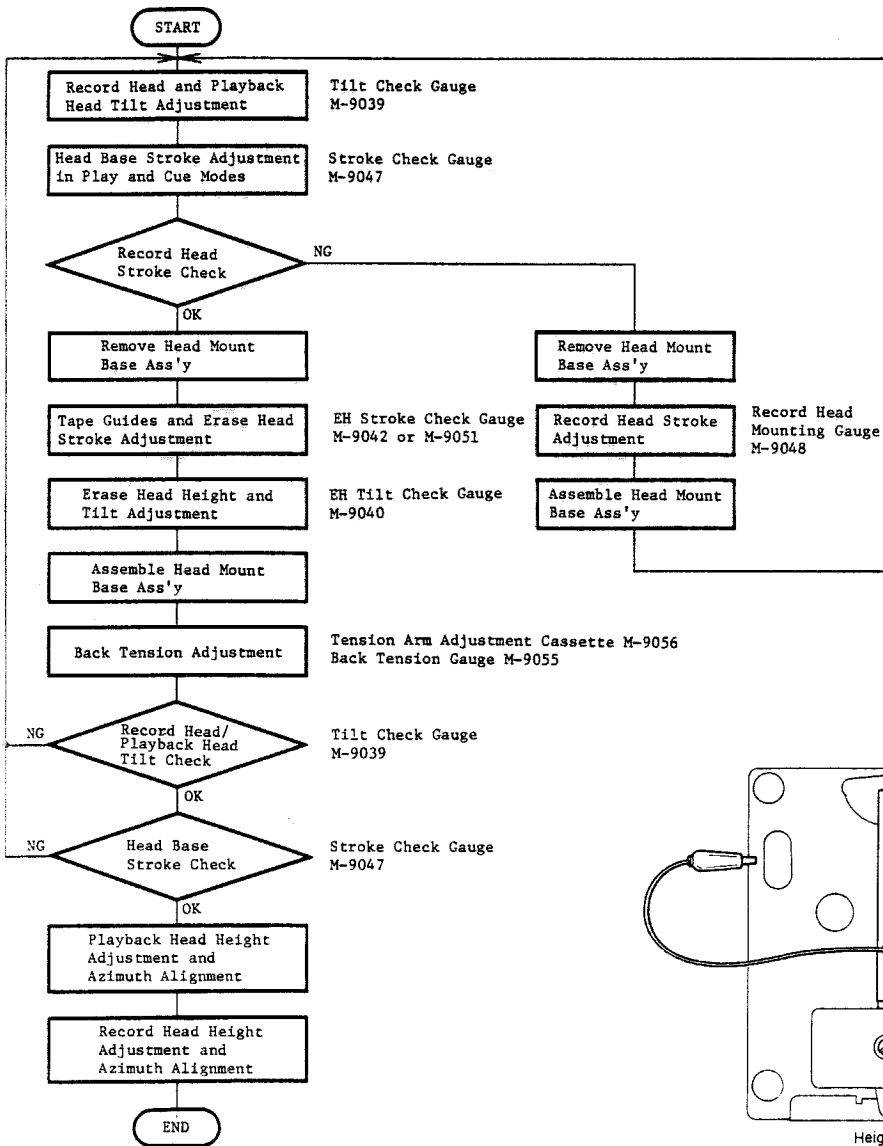

Fig. 4.4
Note: On items 4.3 – 4.9, please refer to Fig. 4.4 flow chart.